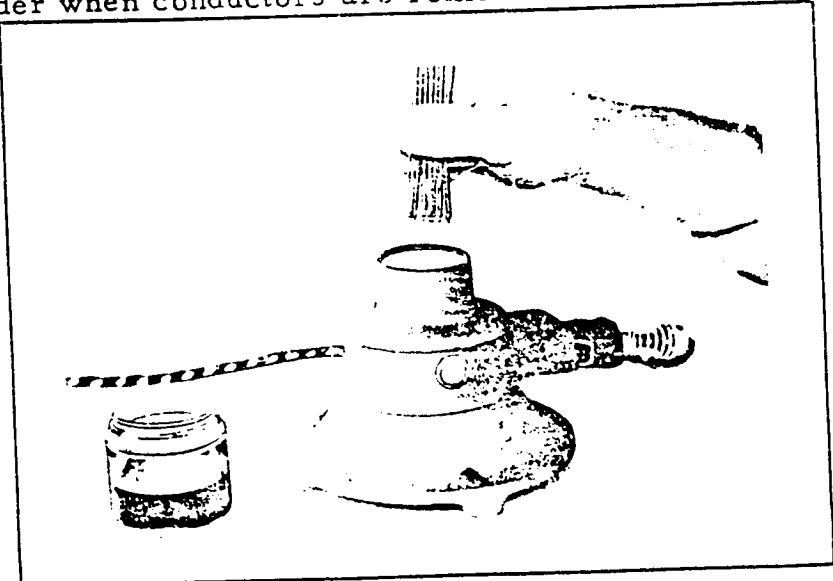

Figure 10
e. Immediately after fluxing, pre-tin approximately 50% of each exposed conductor end. Use of a solder pot and a good grade of 60/40 tin-lead solder is recommended, figure 10. The temperature should be 500° to 550° F. Dip the bare conductor ends into the solder about halfway to the insulation. Hold in the bath long enough for the conductors to heat through and tinning of all strands to take place. Avoid melting, burning, or scorching the insulation. Shake off the excess solder when conductors are removed from the bath.